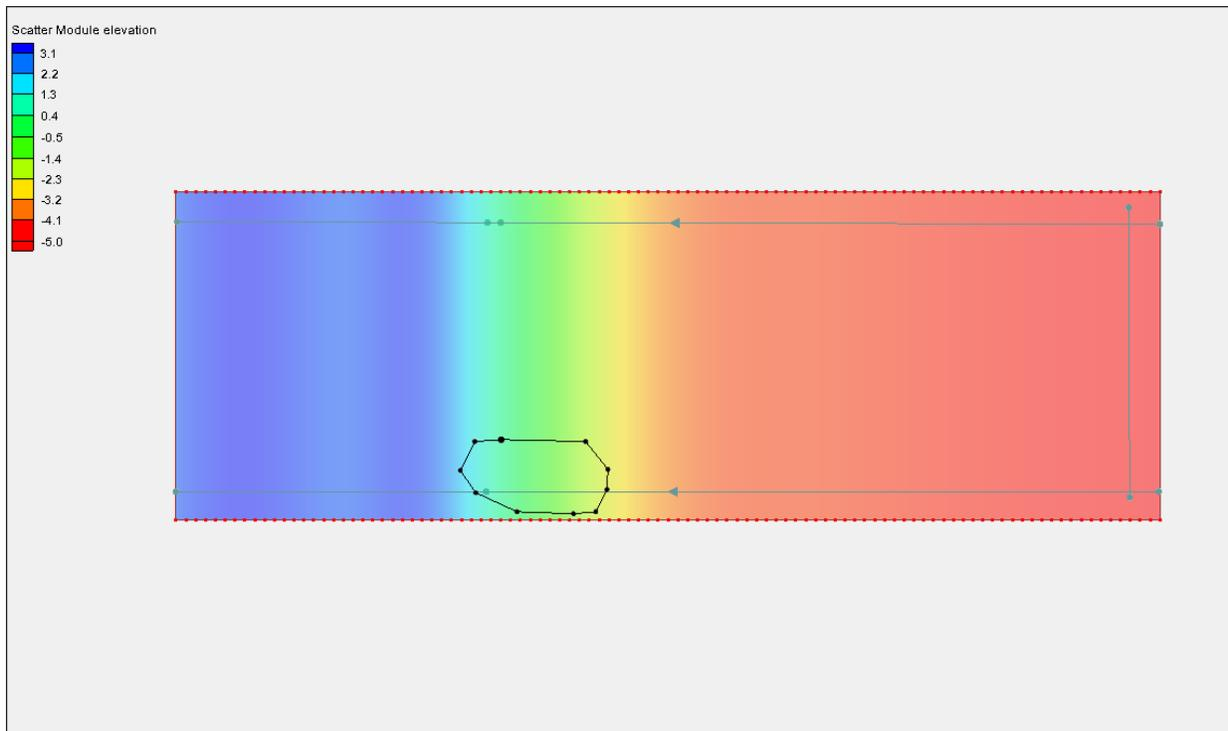

Figure 9 Roughness zone.
3. Click out a polygon enclosing an area with different roughness as shown in Figure 9. This may represent a vegetated region.